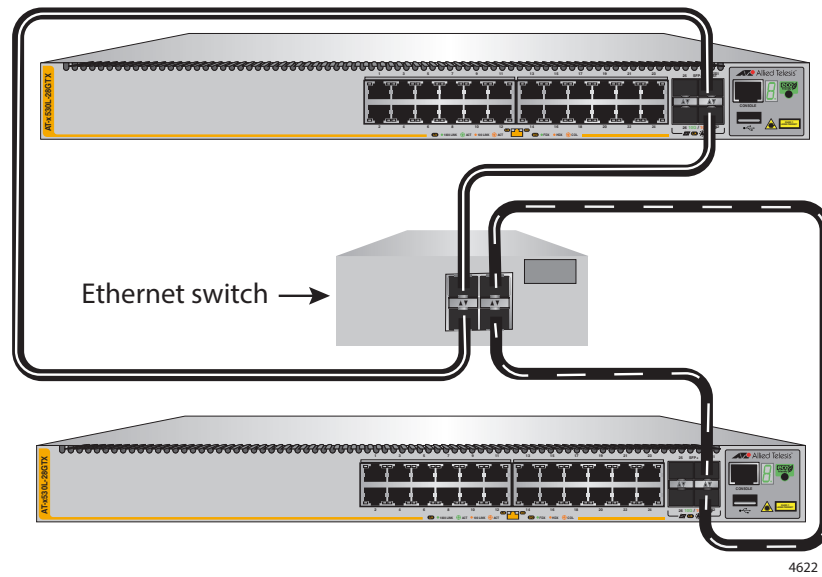

Figure 30. Invalid Stack Trunk with an Intermediary Networking Device
Figure 30 through Figure 33 on page 75 show examples of different types of invalid stack trunks.
**Example 1** Stack trunks must be direct links between trunk ports. There cannot be any intermediary networking devices, such as media converters, Ethernet switches, or routers, between trunk ports. Figure 30 is an example of this type of invalid trunk.